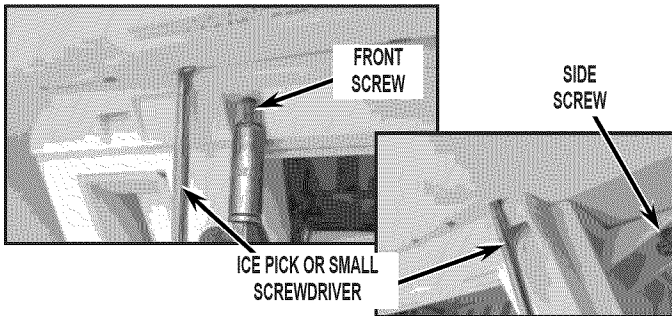

FIGURE 24
30. With new fascia hanging from front of ice box, reinstall ice box assembly using 2 screws removed in step 14. You will need to exert considerable force when installing the ice box in order to line up the screw holes. See *Figure 24*.